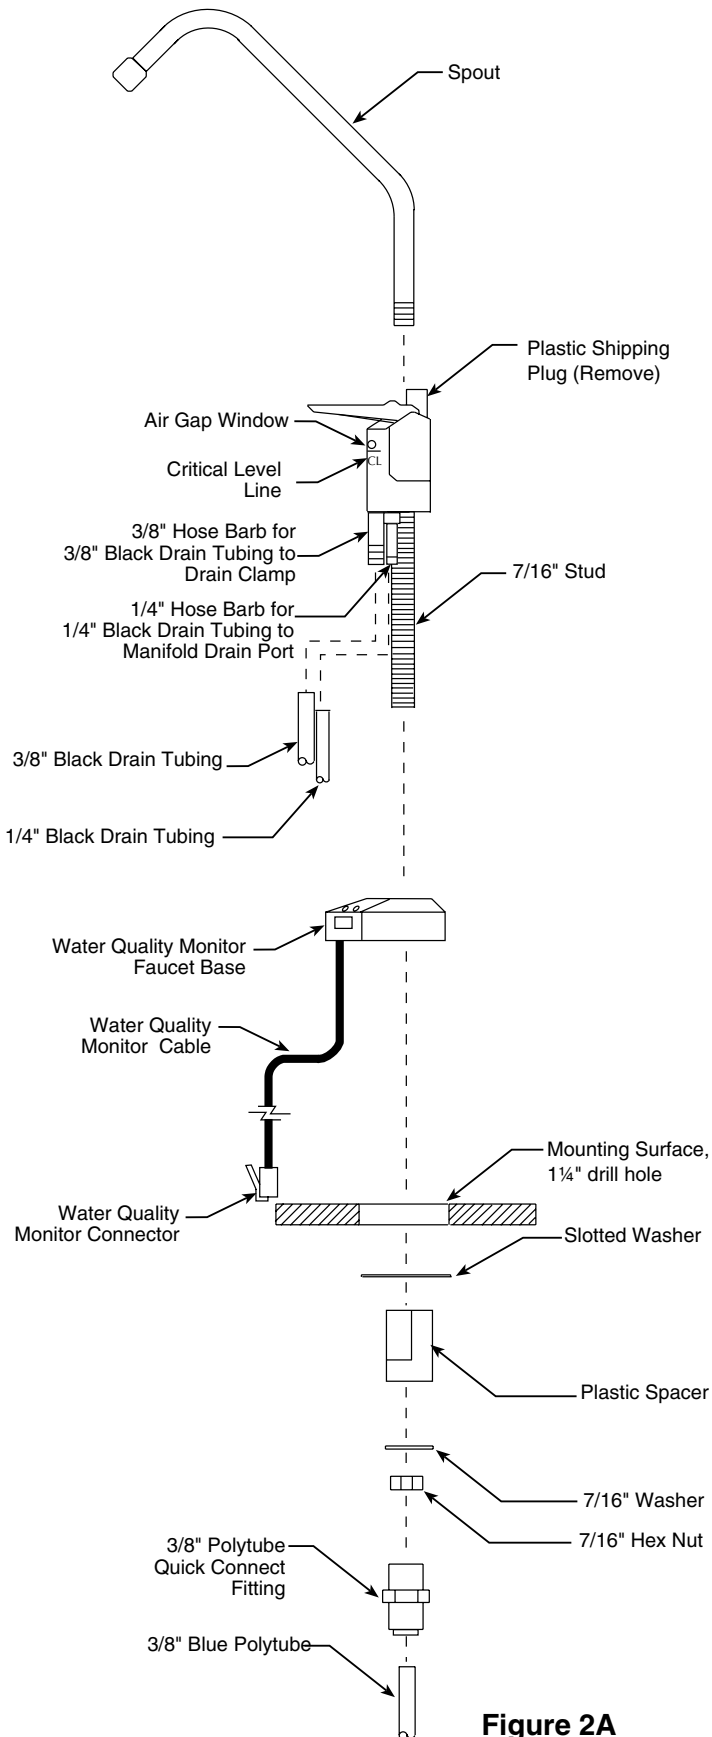

Figure 2A
3. Assemble and attach the Faucet, Water Quality Monitor Faucet Base and tubing (refer to Fig. 2A & 2B, page 9.)
Slide Water Quality Monitor Faucet Base over $\frac{1}{4}$ " Black Drain Tubing, $\frac{3}{8}$ " Black Drain Tubing and $\frac{7}{16}$ " stud screw and seat with Amber/Green LED's aligned under Air Gap Window on Dispensing Faucet. (See Figure 2A, page 9.)
- Check the Air Gap Window on the Dispensing Faucet to be sure that the drain water is flowing. (Refer to Figure 2A, page 9.) The R.O. System is now making water.